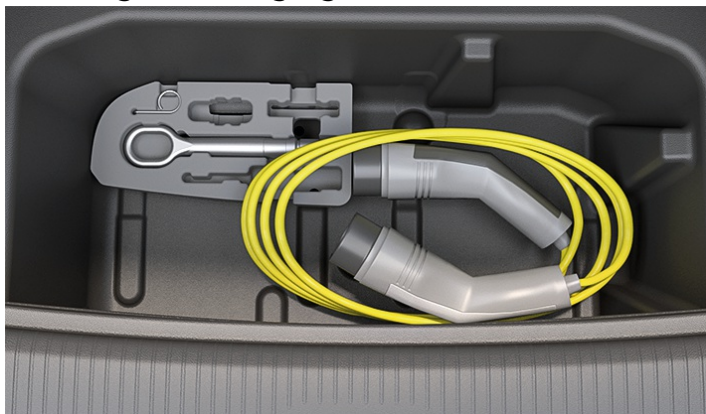

Fig. 1 Under the luggage compartment floor: stowage compartment for the charging cable (schematic diagram).
- Stow the charging cable in the stowage compartment under the luggage compartment floor → Fig. 1.